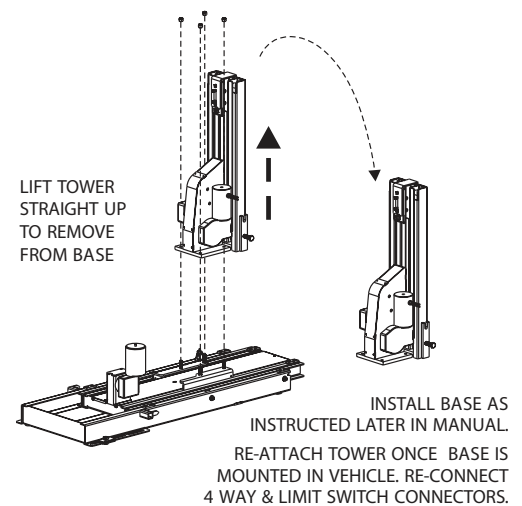

Figure 11-3
- Lift tower straight up to remove from base. [Figure 11-3]